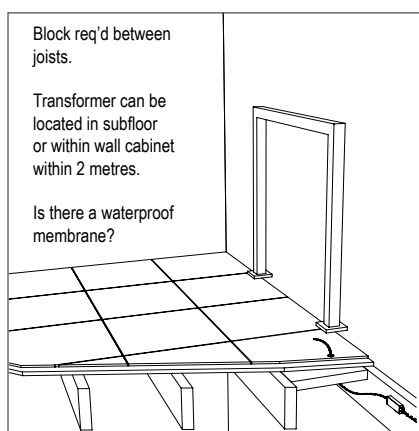
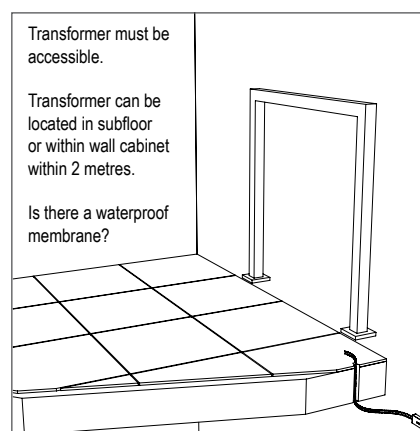
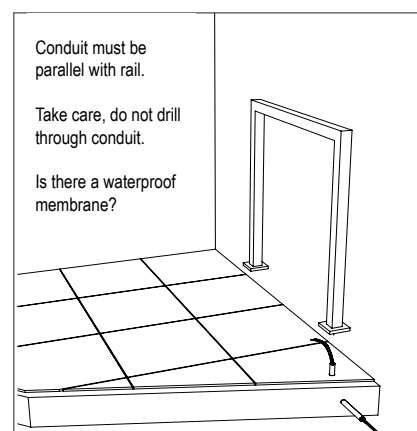
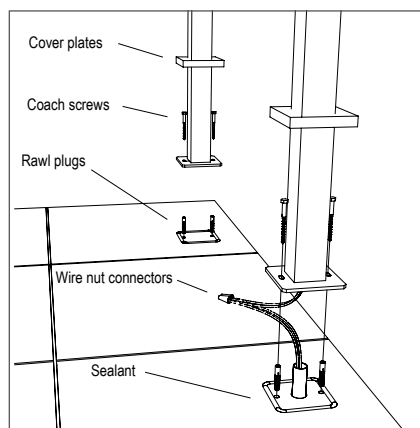

FIGURE 1
FIGURE 2
FIGURE 3
FIGURE 4
- Typical wiring for 4 scenarios is shown in **Fig 1.** - Timber floor, **Fig 2.** - Concrete slab floor with drilled hole for wiring, **Fig 3.** - Concrete floor with embedded conduit for wiring, **Fig 4.** - Tiled floor